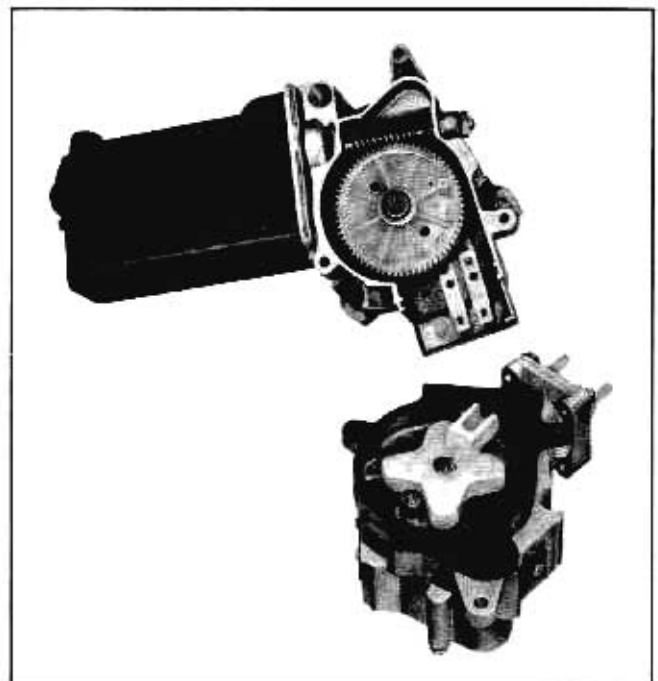

Fig. 11-58 Wiper and Washer Pump
5. Reassemble washer pump or gear box cover. See Fig. 11-58 for washer pump to gear box installation.